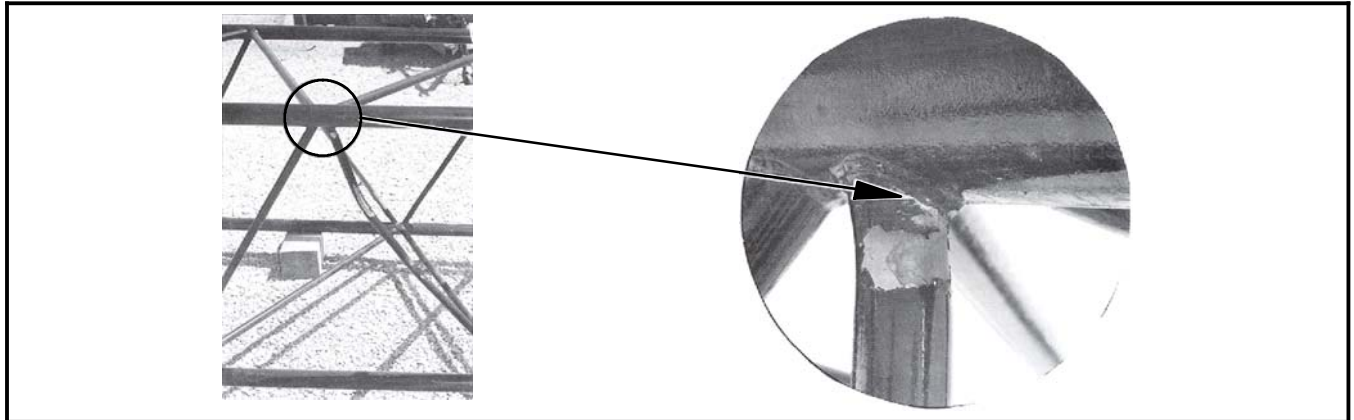

Figure 3
3. Closely observe any areas where the paint has been chipped, wrinkled, or is missing, or contains faint rust lines or marks (see Figure 3).